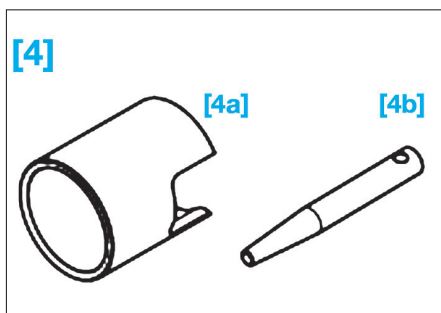

FIG. 35
- [4]. Mandrin Ref. T10219 (Fig.35).